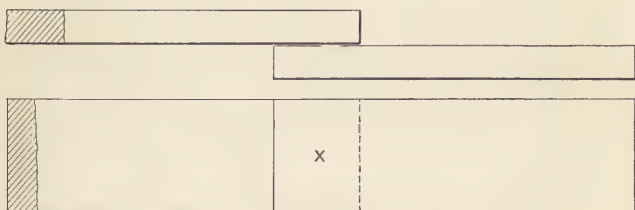

Fig. 49
**Lap Weld.**—The most important points to observe in making a lap weld are to strike first at the center (*X* in Fig. 49) and then work outward from the center in all four directions. This will work out the slag and leave a clean, strong weld.